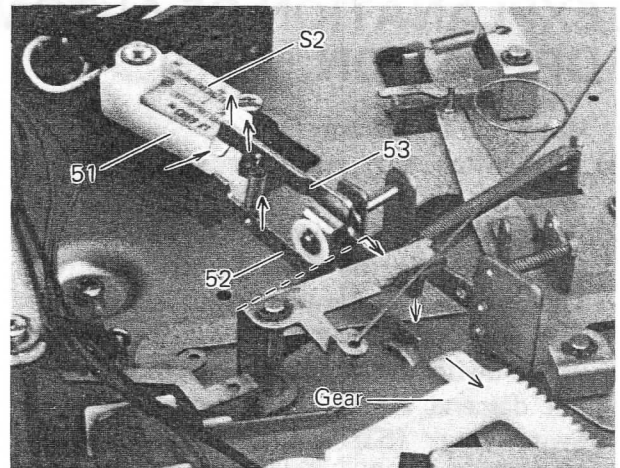

Figure 12
- (6) The extension of the Gear releases the lower Switch Lever (52). The lever goes down and releases the upper Switch Lever (53). Before the upper Lever (53) releases plastic Lever (51), the lower Lever (52) holds the Lever (51) turning the Microswitch ON. The Motor keeps turning. (Figure 12)